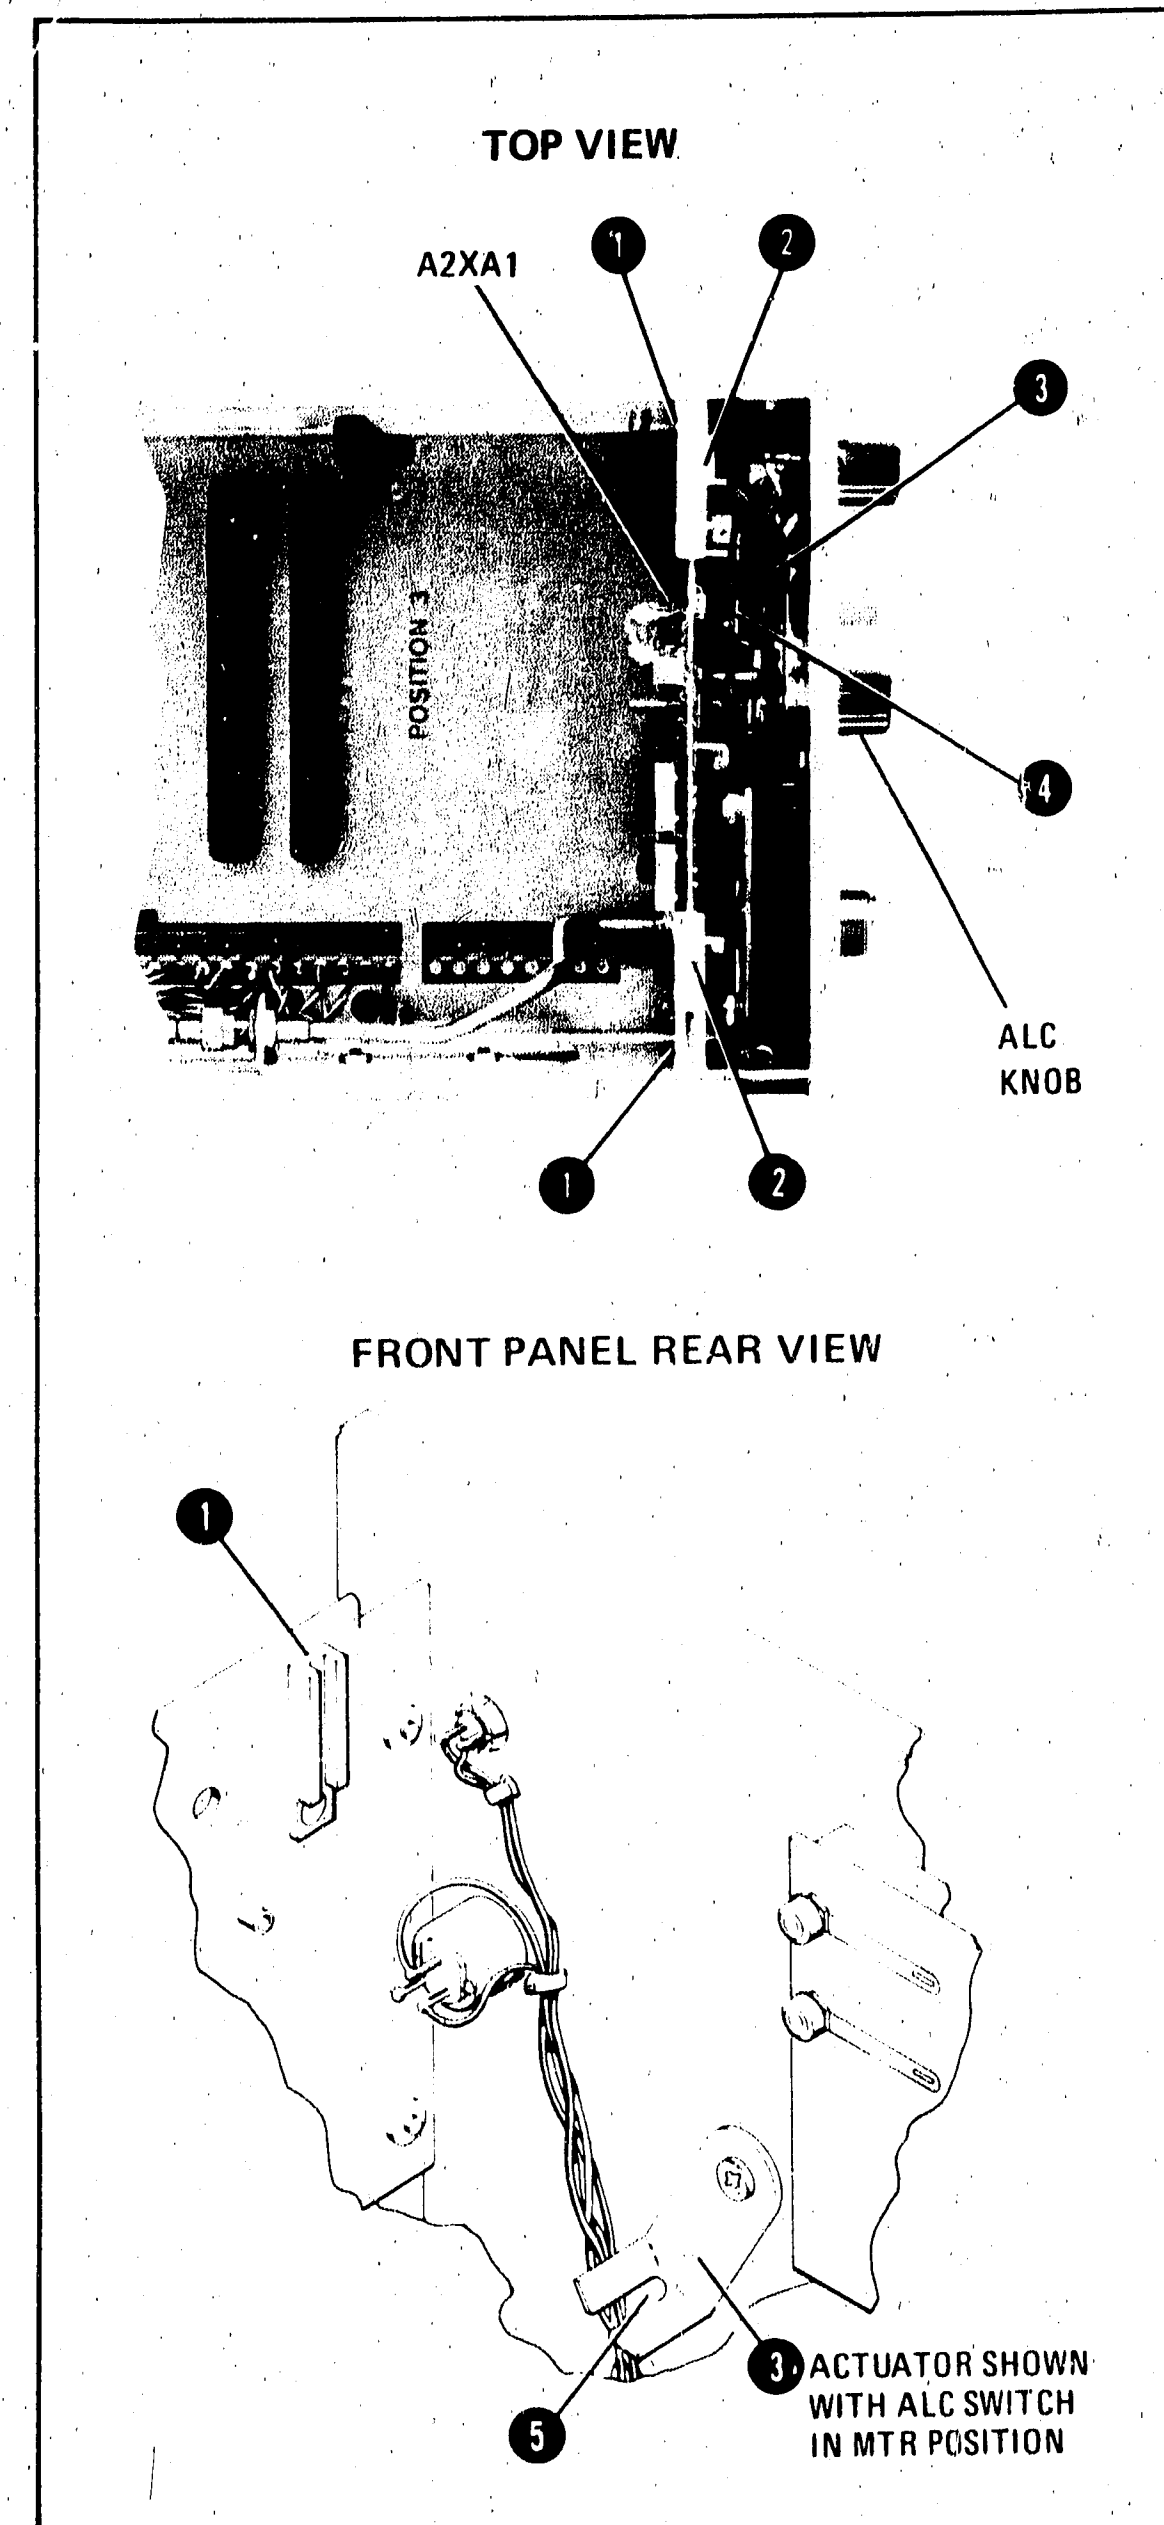
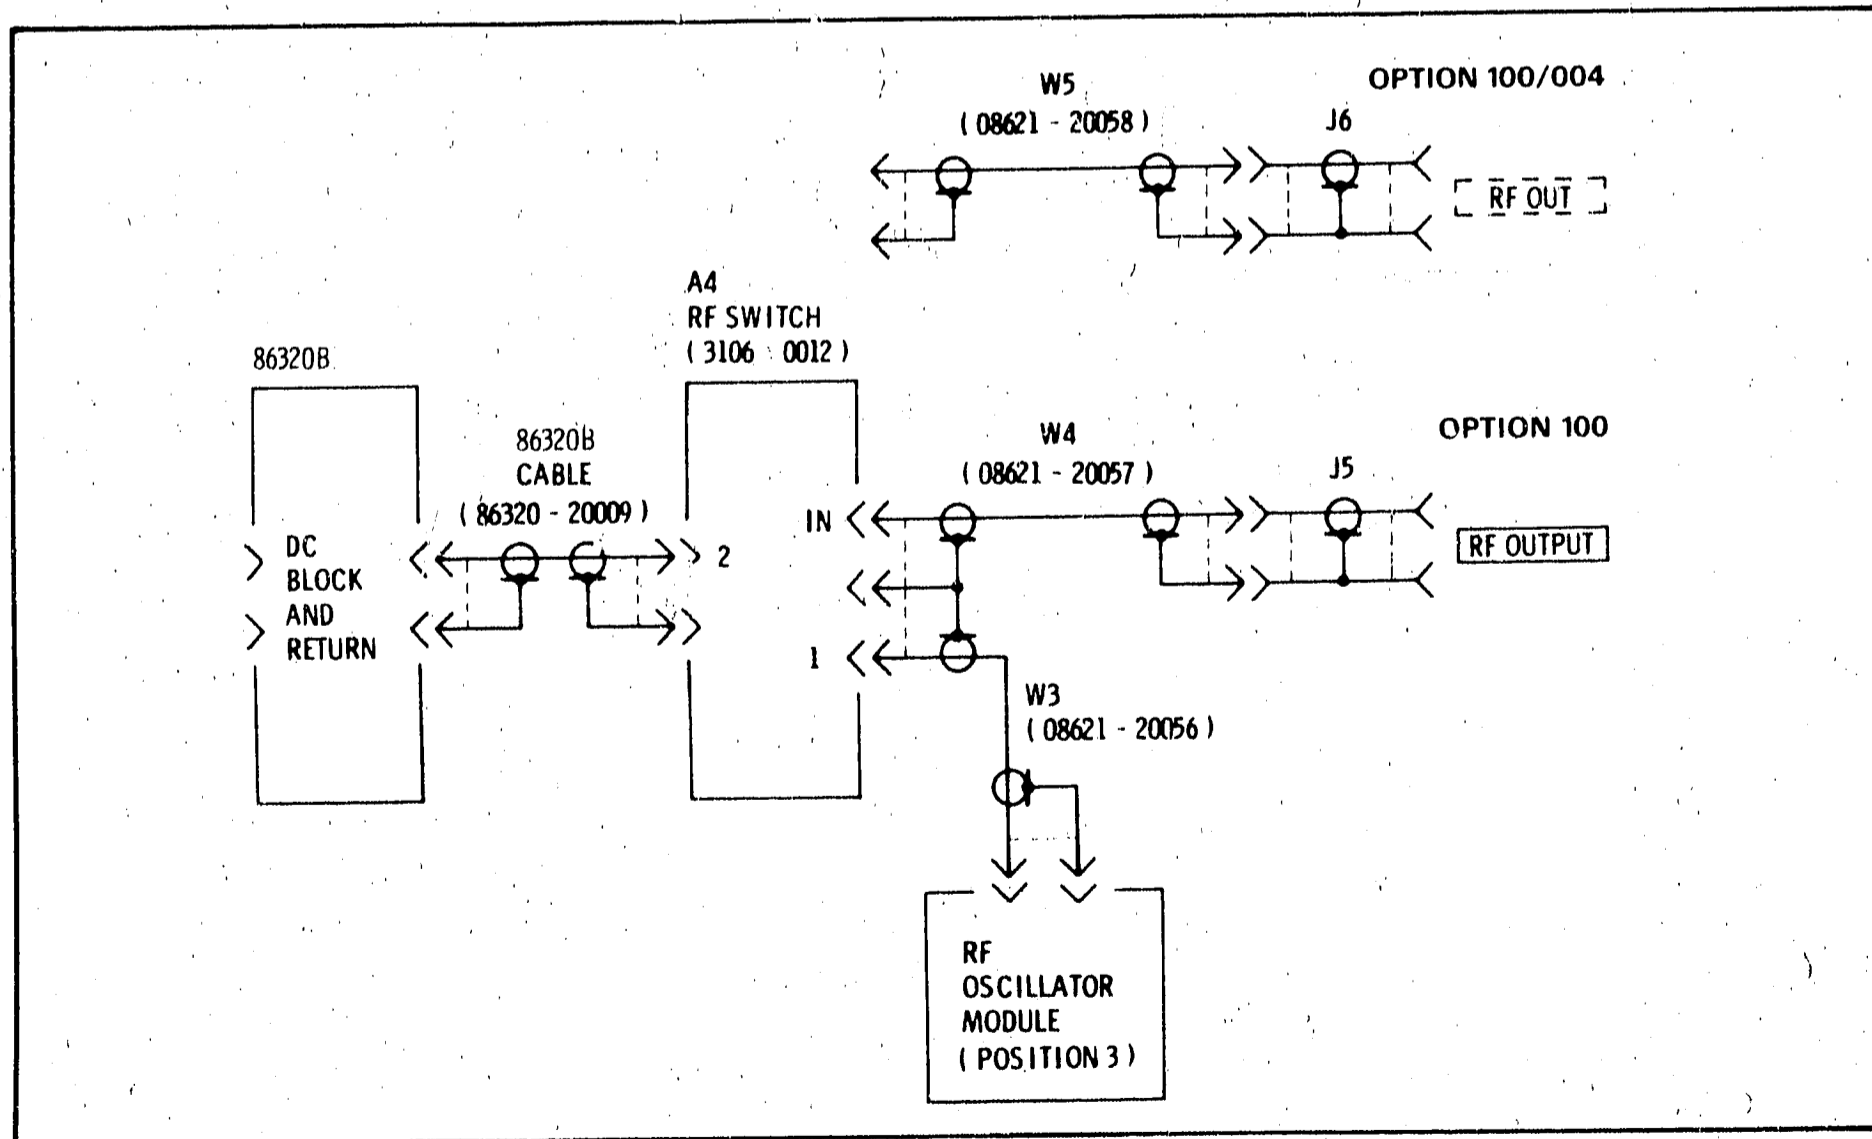

Figure 8-9. A1 ALC Amplifier Board, Installation and Removal
Figure A-1. Functional Block Diagram, Options 100 and 100/004
1. Removal of ALC Amplifier Board (Figure 8-9).
- a. Rotate ALC knob on front panel to MTR position. (See position of Switch-Lever Actuator 3 in Figure 8-9).
Page 8-15, Figure 8-9:
Replace RF Output section on Figure 8-9 with Figure A-1, Option 100.